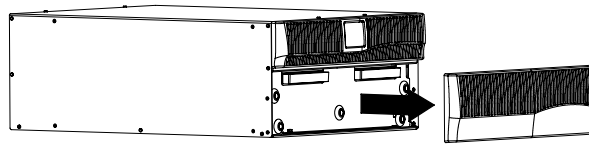

Figure 22. Removing the Lower UPS Front Cover
1. Switch the battery breaker on the UPS rear panel to the OFF (O) position.
2. Remove the lower UPS front cover (see Figure 22).